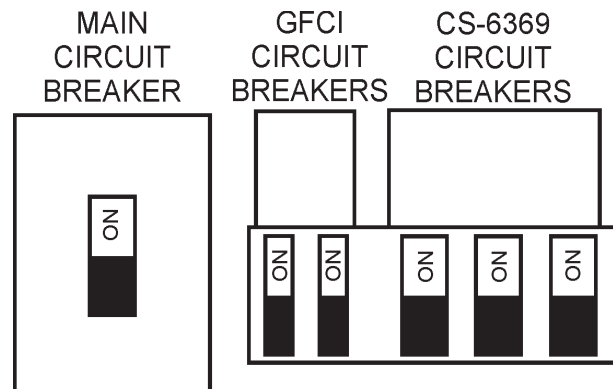

Figure 39. Main, Aux. and GFCI Circuit Breakers (ON)
11. Place the **main**, **GFCI**, and **aux.** circuit breakers in the **ON** position (Figure 39).
1. Place both the **MAIN**, **GFCI** and **LOAD** circuit breakers as shown in Figure 39 to the **OFF** position.
2. To shut-down the engine in the event of an emergency, switch the **MAIN**, **GFCI** and **LOAD** (Figure 39) circuit breakers to **OFF** position.